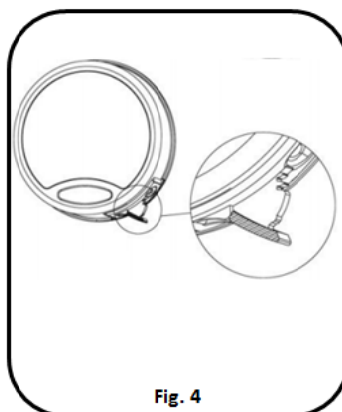

Fig. 4
- Release the latch of the battery compartment, by pulling lever downward. See Fig 4.